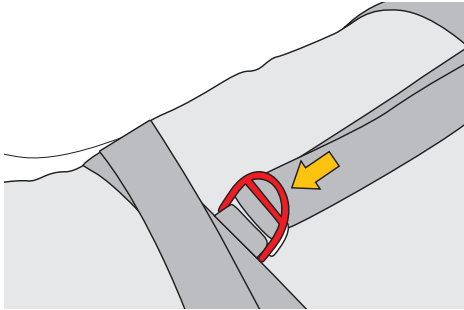

Fig.21
a) Loosen the straps by using the buckles as shown in fig. 21.